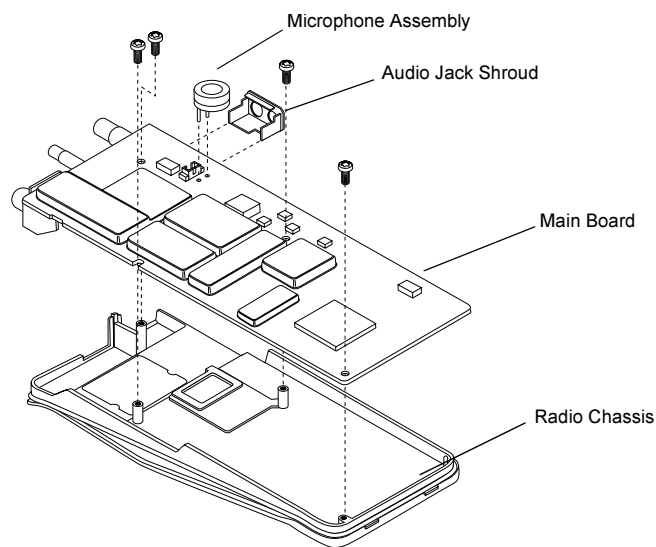

Figure 2-7 Removal of Main Board from Chassis
- Chassis Disassembly (Figure 2.7)
2. Use a Torx™ screwdriver with a T6 bit to remove the four screws (Figure 2.7) holding the main board to the chassis.
5. Lift the main board from the chassis (Figure 2-7).